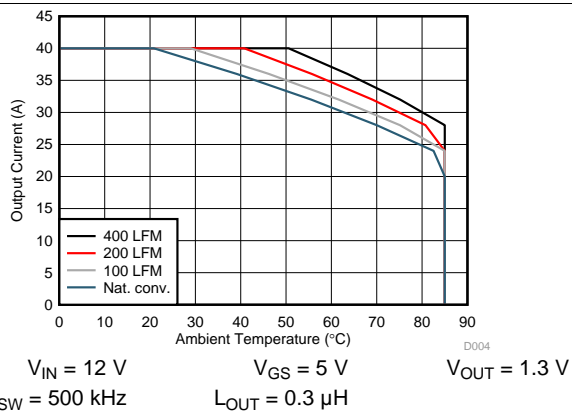
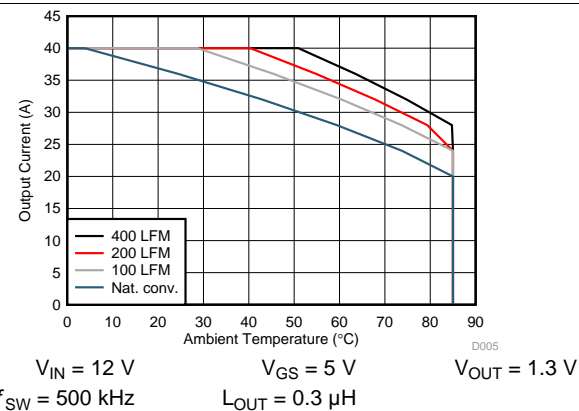
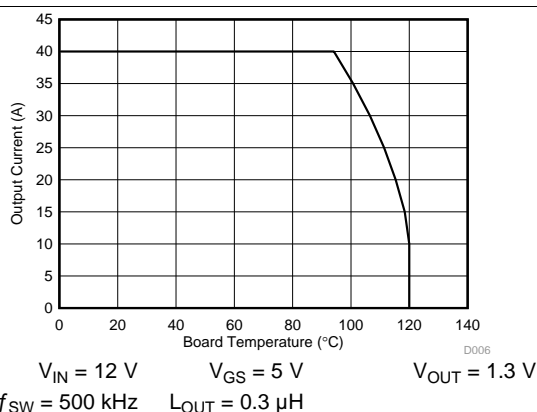

Figure 3. Safe Operating Area (SOA) – PCB Vertical Mount
Figure 4. Safe Operating Area (SOA) – PCB Horizontal Mount
Figure 5. Typical Safe Operating Area (SOA)
(1) Equivalent based on application testing. See Equivalent System Performance section for details.
$T_J = 125^\circ\text{C}$, unless stated otherwise. The typical power block system characteristic curves Figure 3, Figure 4, and Figure 5 are based on measurements made on a PCB design with dimensions of 4 in (W) \times 3.5 in (L) \times 0.062 in (H) and 6 copper layers of 1-oz copper thickness. See Application and Implementation for detailed explanation.
The SOA curves in the CSD87350Q5D data sheet provides guidance on the temperature boundaries within an operating system by incorporating the thermal resistance and system power loss. **Figure 3** to **Figure 5** outline the temperature and airflow conditions required for a given load current. The area under the curve dictates the safe operating area. All the curves are based on measurements made on a PCB design with dimensions of 4 in (W) × 3.5 in (L) × 0.062 in (T) and 6 copper layers of 1-oz copper thickness.